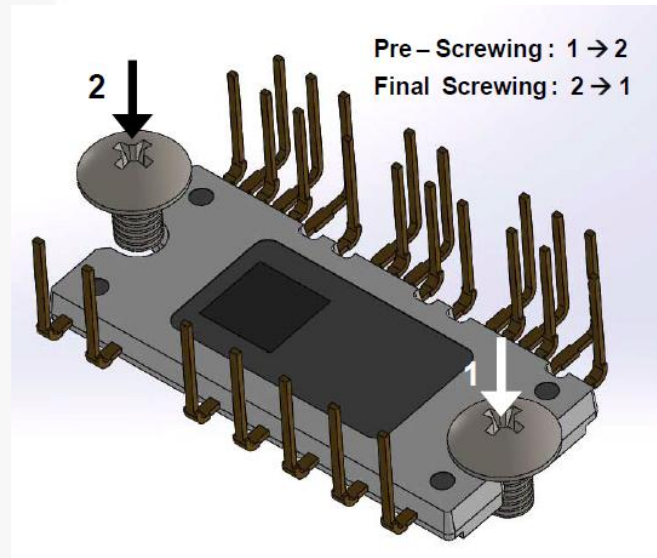

Figure 1. Mounting Screws Fastening Order:
When installing a module to a heat sink, excessive uneven fastening force might apply stress to inside chips, which will lead to a damage or degradation of the device. An example of recommended fastening order is shown in Figure 1.
- Avoid tightening one side at once. Figure 1 shows the recommended torque order for mounting screws. Uneven mounting can cause the SPM ceramic substrate to be damaged. The pre-screwing torque needs to be set as 20~30% of the maximum torque rating.